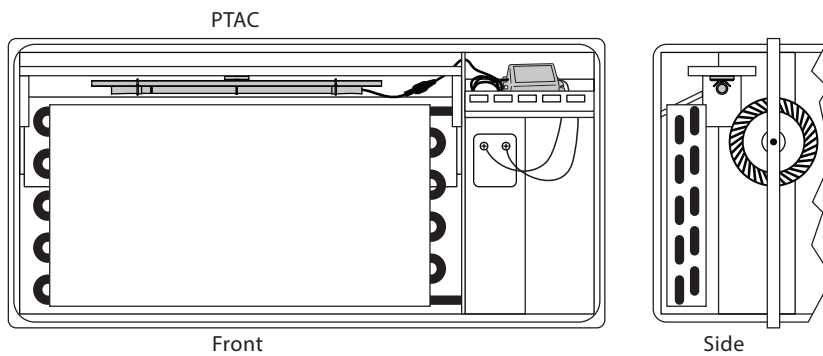
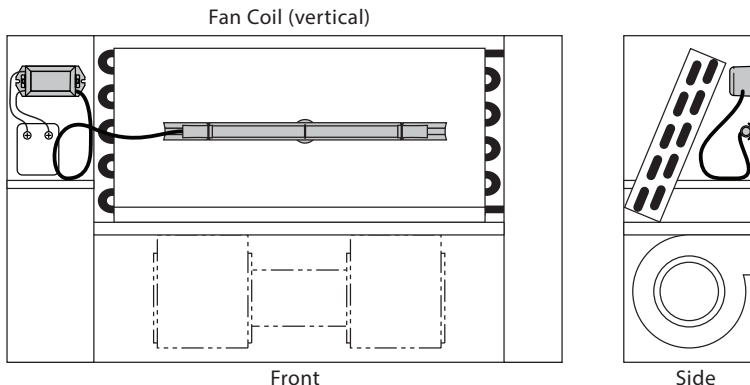

Fig. 2. Example PTAC Installation
Fig. 4. Example Fan Coil (vertical) Installation
1. Determine the best position for placement of the UV lamp and power supply. (Fig. 2-Fig. 4)